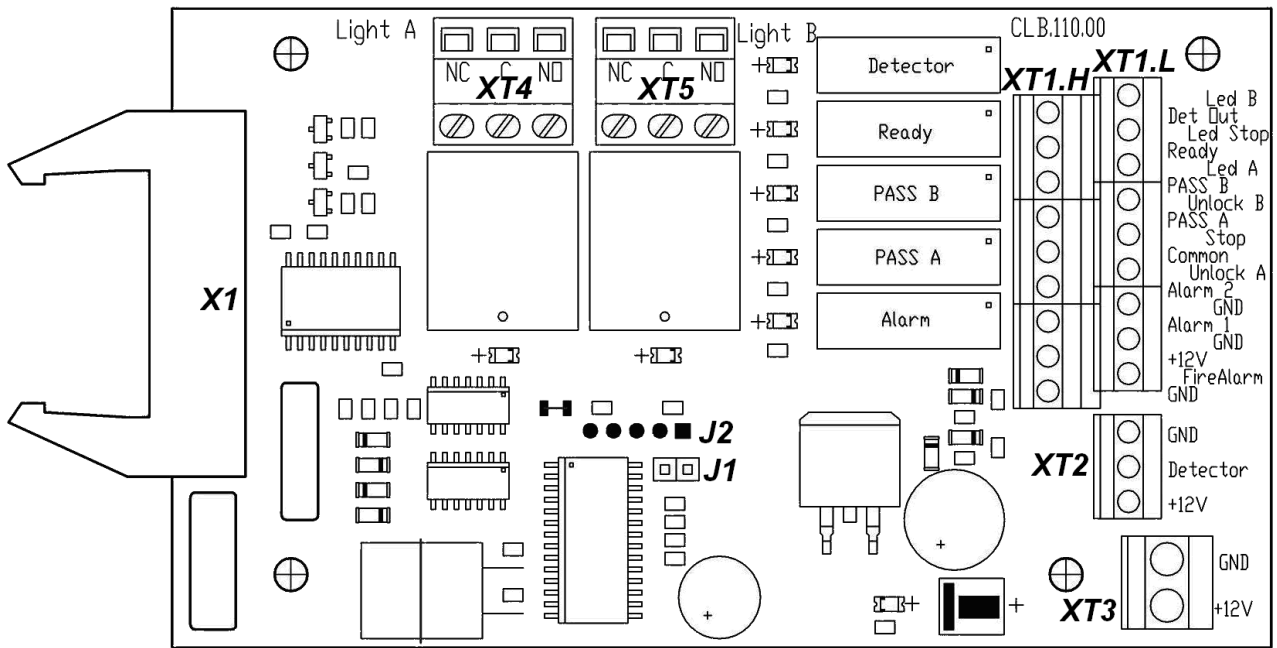
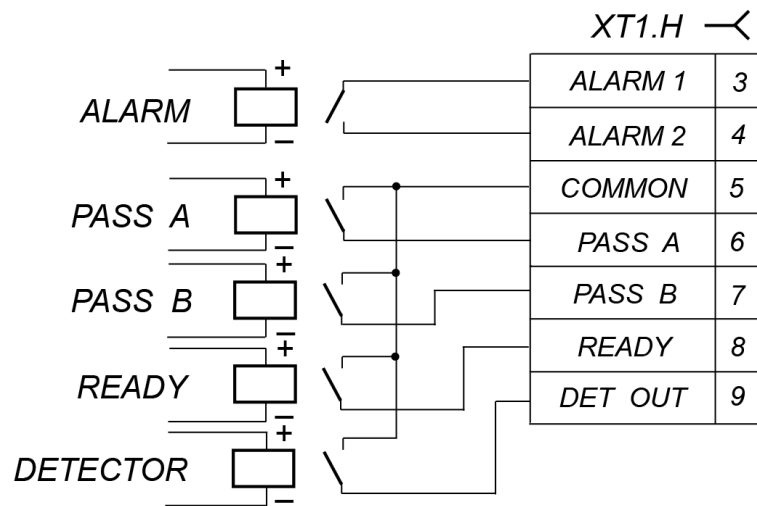

Figure 2. Control Logic Board (CLB)
Figure 6. Output cascades for PASS A, PASS B, Ready, Det Out and Alarm
The CLB (Fig. 2) contains:
Connection of the stated devices is made with the cable (6) to the corresponding connector blocks **XT1.L** or **XT1.H** of the CLB in accordance with the connection layout (Fig.2 and Fig. 10).
If the turnstile orientation relatively to the operator’s terminal is not standard (e.g. the terminal is placed at the backside of the turnstile housing), the RC-panel orientation towards the turnstile can be changed by swapping the RC wires connected to the contacts *Unlock A* and *Unlock B* as well as contacts *Led A* and *Led B* accordingly (Fig. 2 and 10.).
The relays “PASS A” (contacts *PASS A* and *Common*), “PASS B” (contacts *PASS B* and *Common*), “Ready” (contacts *Ready* and *Common*), “Detector” (contacts *Det Out* and *Common*) and “Alarm” (contacts *Alarm 1* and *Alarm 2*) have normally open contacts. The “Common” contact, at that, is not connected to the turnstile power supply negative terminal. In the initial (inactive) state, when the power is on, the relay contacts *PASS A*, *PASS B*, *Ready* and *Detector* are closed (voltage is supplied to the relay coil) and the “Alarm” relay contacts are broken (voltage is not supplied to the relay coil). Opening/closing of “PASS A”, “PASS B”, “Ready”, “Detector” and “Alarm” relays are indicated by lighting up/going down of the red test indicators located near the corresponding relays (Fig. 2). The output cascades for “PASS A”, “PASS B”, “Ready”, “Det Out” and “Alarm” are the relay contacts with the following signal characteristics (Fig. 6):
The control mode is set by the jumper on the **J1** connector (the **J1** connector location is shown on Figure 2: the jumper is installed – the pulse control mode, the jumper is not installed – the potential control mode). The jumper is installed at delivery.
An intrusion detector is connected to the **XT2** connector block, and a siren is connected to the **XT1.H** connector block of the CLB according to the connection layout (Fig. 2 and 10). There should be normally closed contacts on the intrusion detector.
A signal on current status of the intrusion detector is constantly transmitted to the *Det Out* and *Common* contacts of the CLB **XT1.H** connector block (Fig. 2).
The emergency unblocking device is connected to the **XT1.L** connector block of the CLB in accordance with the connection layout (Fig. 2 and Fig. 10). If the *Fire Alarm* input is not used, it is necessary to install a jumper between the contacts *Fire Alarm* and *GND*. This jumper is preset at the factory.